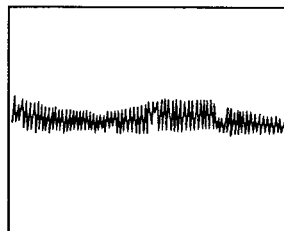
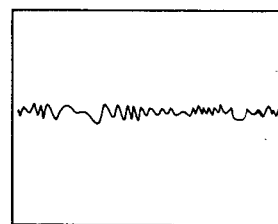

Fig.1 Null Point
Fig.2 This is not the null point.
5. Slide the tip of a small screwdriver through the guide and insert it horizontally into the grating adjustment slit. Adjust grating angle so that the waveform becomes small and its envelope is smooth. (This point is called null point.) (See Fig. 1 and Fig. 2.)